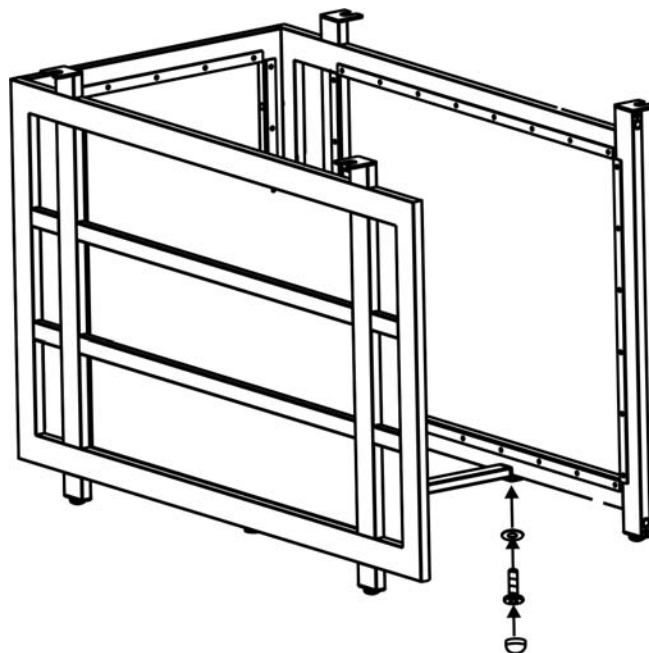

Figure 3
3. Attach the middle support to the side panels by using two 1/4"x15 mm bolts and washers as shown in Figure 3. Guide the bolts through the holes in the middle support, into the pre-drilled holes in the side panels. Hand tighten only.